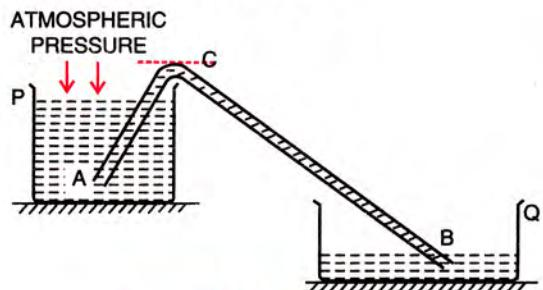

Fig. 4.17 Siphon system
- (v) Action of a siphon system :** Water is supplied from a higher level to a lower level using a siphon system. Fig. 4.17 shows the siphon system in which there are two vessels *P* and *Q*. Vessel *P* is at a higher level than the vessel *Q*. Water contained in the vessel *P* is passed to the vessel *Q* by means of a glass (or rubber) tube *AB* with one end *A* kept immersed inside water in vessel *P*, while the other end *B* is kept open in vessel *Q*. To transfer water from vessel *P* to vessel *Q*, first air is sucked out from the tube at the lower end *B* of it, so that pressure inside the tube decreases. It becomes less than the atmospheric pressure acting above the water surface in vessel *P*. Due to excess pressure at *A*, water rises in the tube through the end *A*, so as to reach up to the level *C*. Then water flows down through the tube from the higher level *C* to the lower level *B* in the vessel *Q* due to the difference in pressure of water at the levels *C* and *B*.